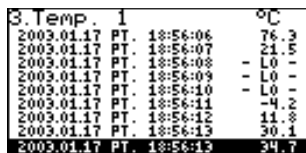

Fig. 6.7. "Measurements list" mode
- "Measurements list" mode (Fig. 6.7) enables the momentary values recorded during the set period of time or averaged values of the conducted measurements for one of the measurement channels to be viewed in numeric form.